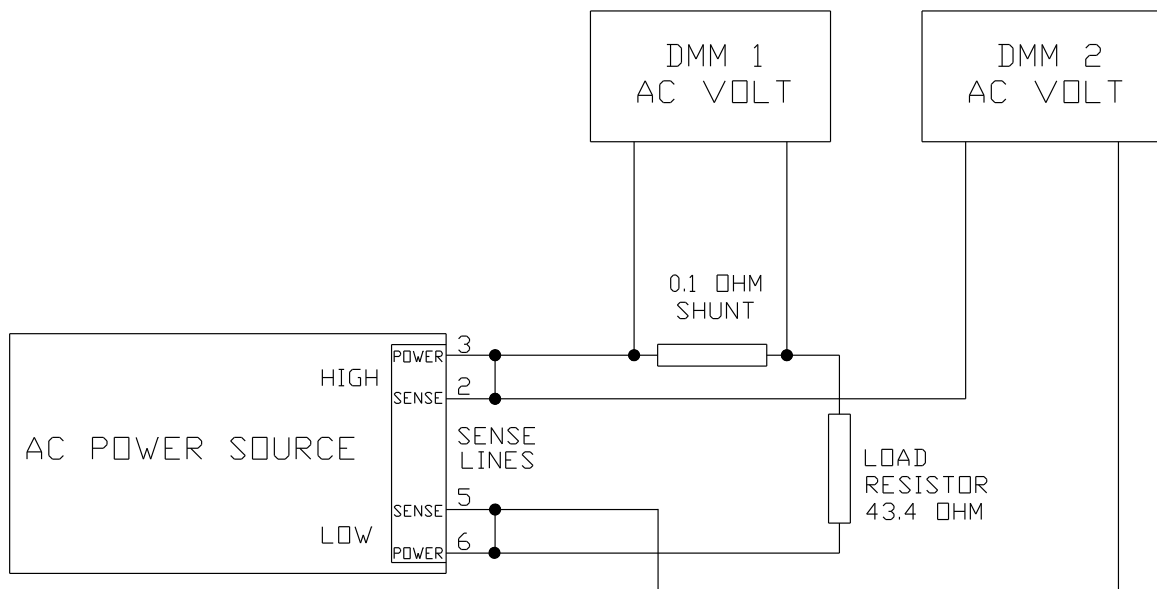

Figure 6-2: Test Equipment Hook-up for Current and Power Measurement Calibration
1. Connect the test equipment to the power source as shown in Figure 6-2. **Do not** connect any load during this step. Voltage calibration must be done under no load conditions.
1. Connect the test equipment to the power source as shown in Figure 6-2.
1. Connect the test equipment as shown in Figure 6-2. Use the 43.4 ohm load.